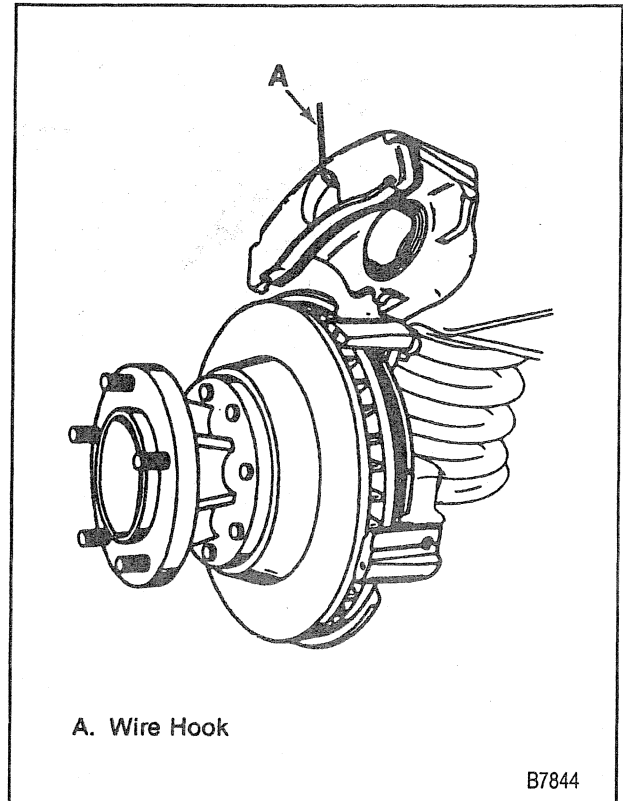

Figure 7—Suspending the Caliper
- Use a brass punch and a hammer to drive the support key out (figure 7).
10. Caliper assembly (1) (figure 7).
- Suspend the caliper (figure 7).